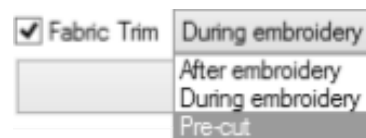

Fig. 20
9. In *Object Properties* select *Applique*. Place a checkmark in the option for *Fabric Trim*. Activate the dropdown menu to select *Pre-Cut* (See Fig. 20).